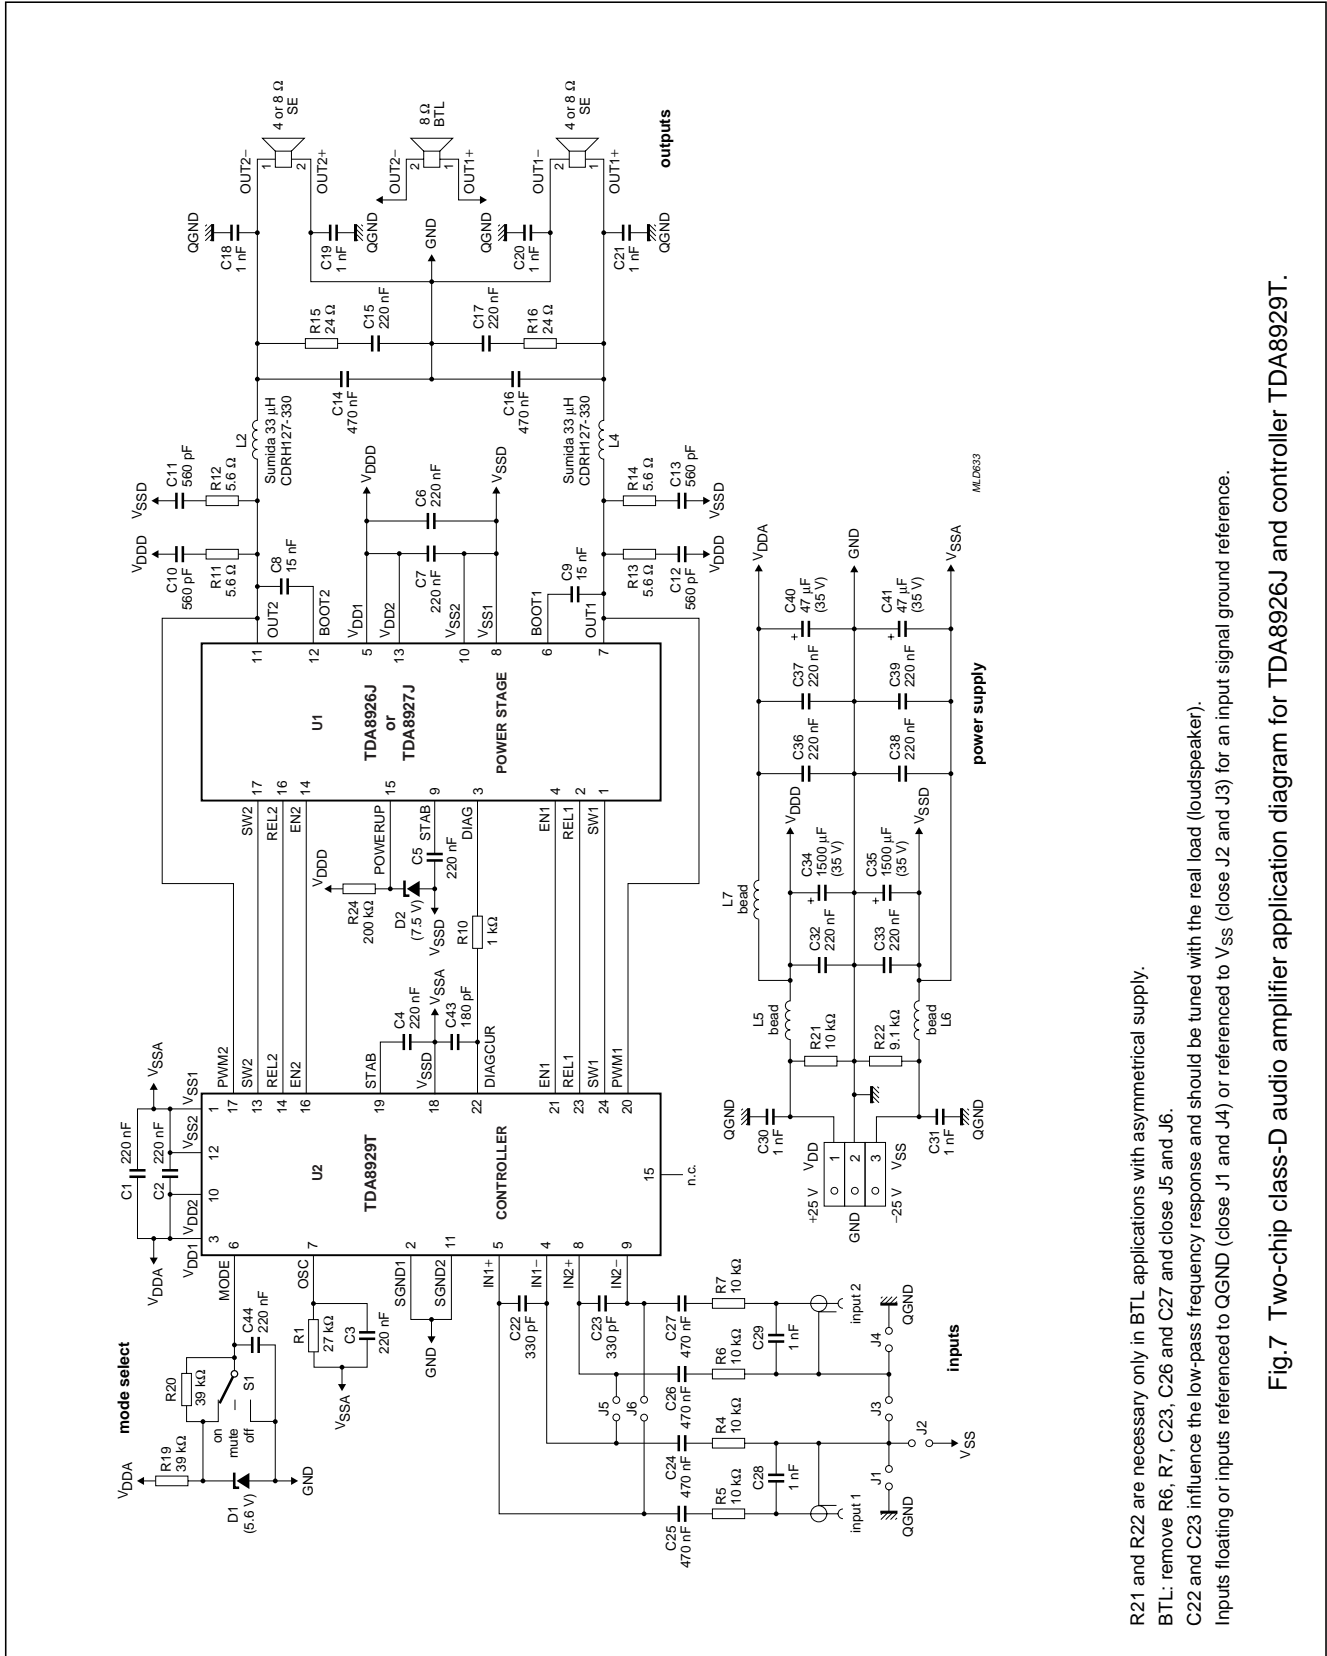
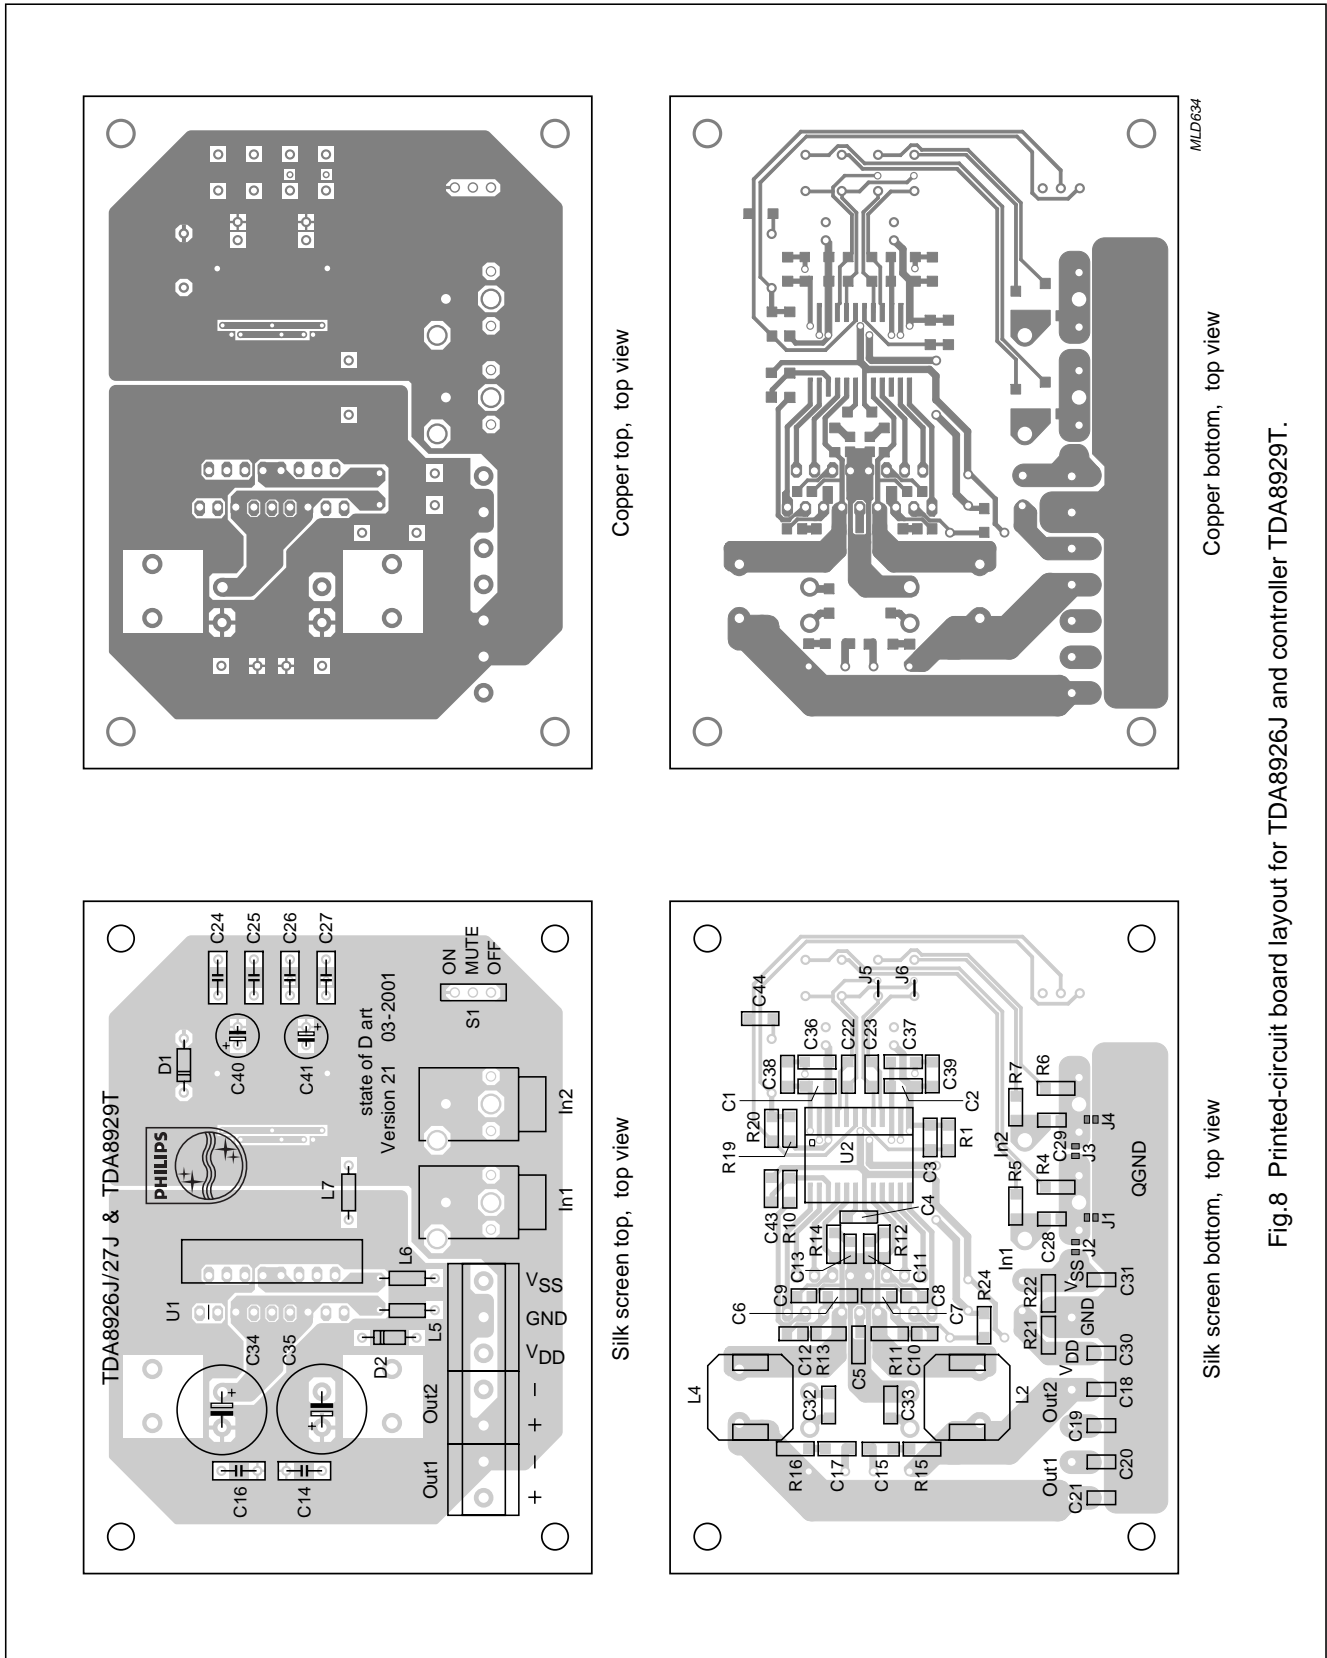

Fig.7 Two-chip class-D audio amplifier application diagram for TDA8926J and controller TDA8929T.
Fig.8 Printed-circuit board layout for TDA8926J and controller TDA8929T.
- V_P = ±25 V; R_L = 8 Ω; f_i = 1 kHz; f_{osc} = 310 kHz; R_s = 0.1 Ω (series resistance of filter coil); T_{amb} = 25 °C; measured in reference design (SE application) shown in Fig.7; unless otherwise specified.
- V_P = ±21 V; R_L = 8 Ω; f_i = 1 kHz; f_{osc} = 310 kHz; R_s = 0.1 Ω (series resistance of filter coil); T_{amb} = 25 °C; measured in reference design (BTL application) shown in Fig.7; unless otherwise specified.
The reference design for a two-chip class-D audio amplifier for TDA8926J and controller TDA8929T is shown in Fig.7. The Printed-Circuit Board (PCB) layout is shown in Fig.8. The bill of materials is given in Table 1.
Table 1 Two-chip class-D audio amplifier PCB (Version 2.1; 03-2001) for TDA8926J and TDA8929T (see Figs 7 and 8)